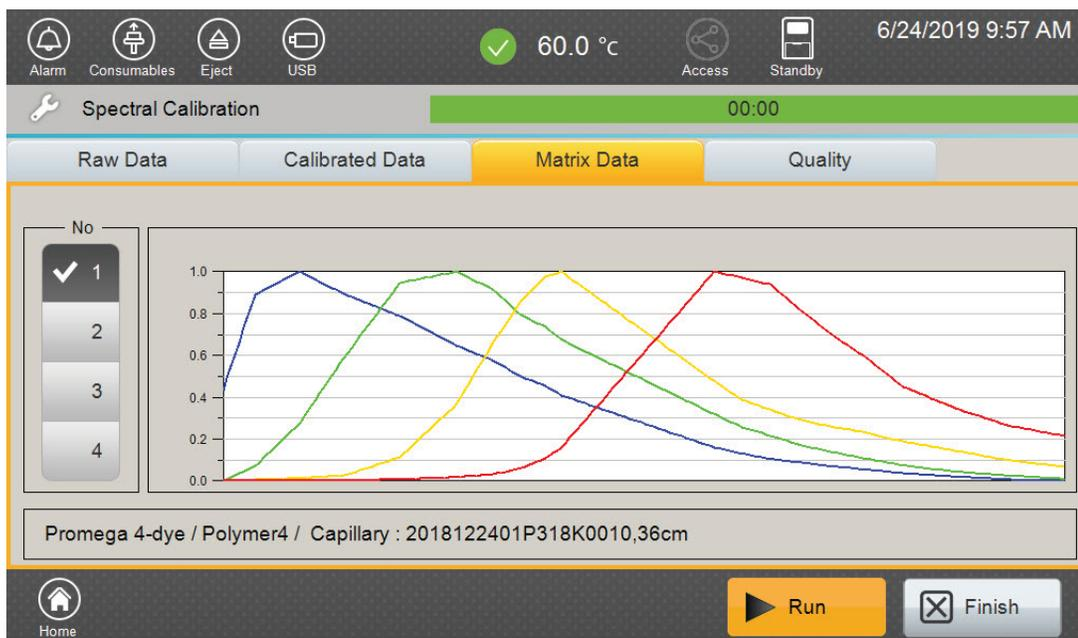

Figure 26. Spectral Calibration 'Matrix Data Tab' screen.
3. The 'Matrix Data' tab can be used to view emission spectra for each capillary (Figure 26).